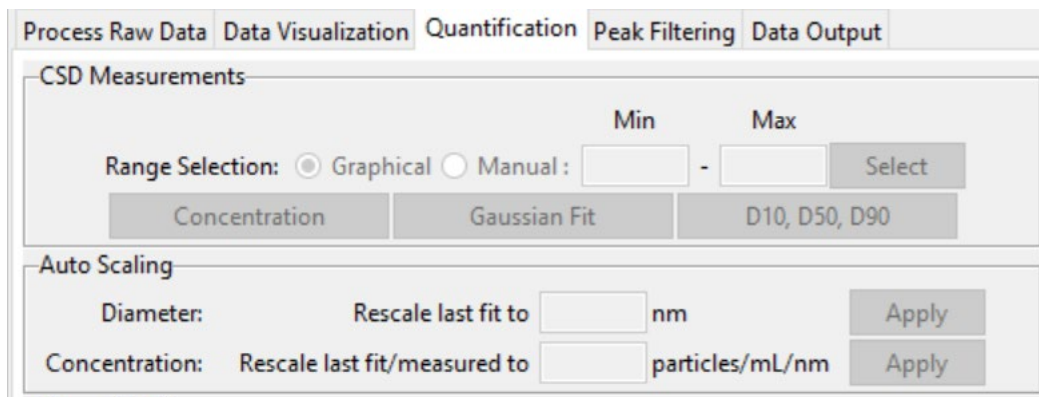

Figure 7. Screenshot of Quantification options in the nCS1 data analysis software.
6.2.2.5 Using the combined final data file, use the software tools to determine particle size and concentration; this is found in the “quantification” tab, as shown in Figure 7. The simplest manner to determine size is to select the particle peak using the software and use the “Gaussian fit” function. This will fit a simple Gaussian function to the graphed data and is used to determine the average particle size and coefficient of variation of the data. The Gaussian fit will also report a particle concentration and standard deviation; this concentration corresponds to the Gaussian peak fit not the integrated concentration under the graphed data. The integrated